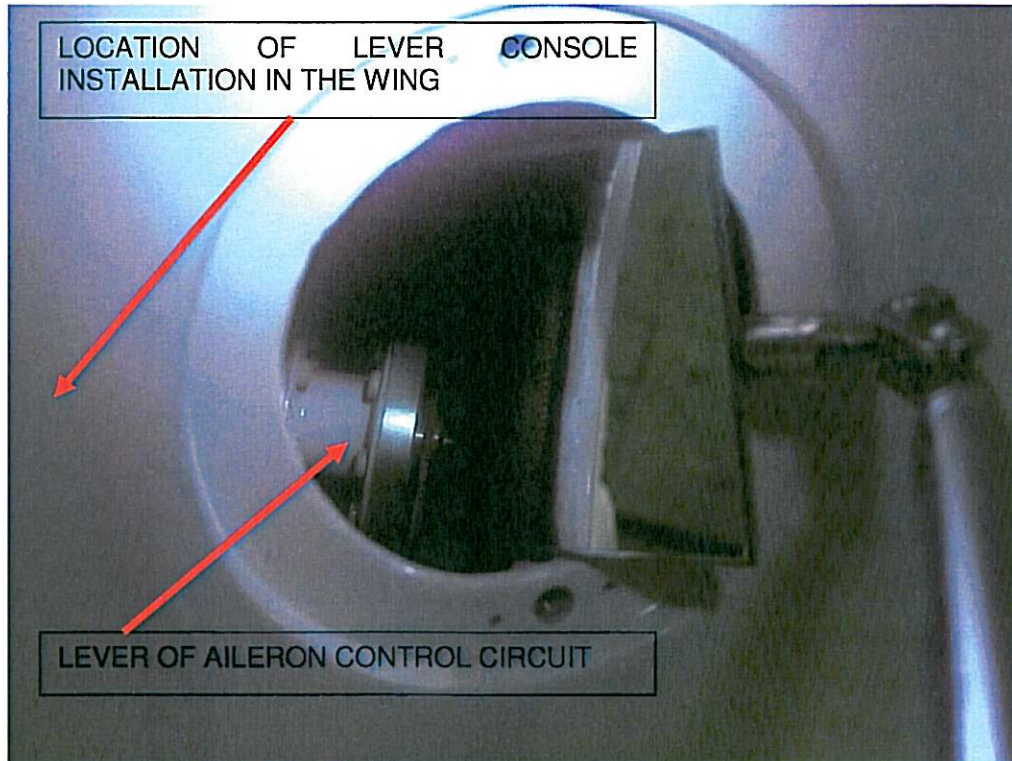

Figure 4. View of lever of aileron control system in inspection mirror.
- 3.6 Visually inspect the condition of installed console. (Pay special attention to the area of console mounting to wing components). At the same time the other person can deflect aileron over the full range, which facilitates the assessment of console installation condition. Check, in which position of aileron the lever of aileron control circuit covers console least possible - Figure 4 illustrates a view of the lever in inspection mirror.**